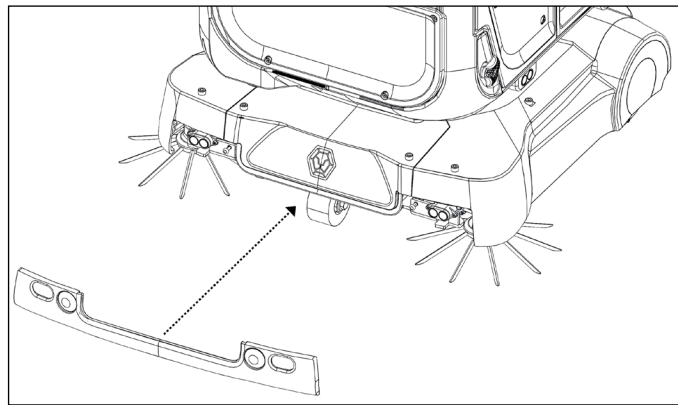

Figure 11
4. Secure the cover back in place (Fig. 11).